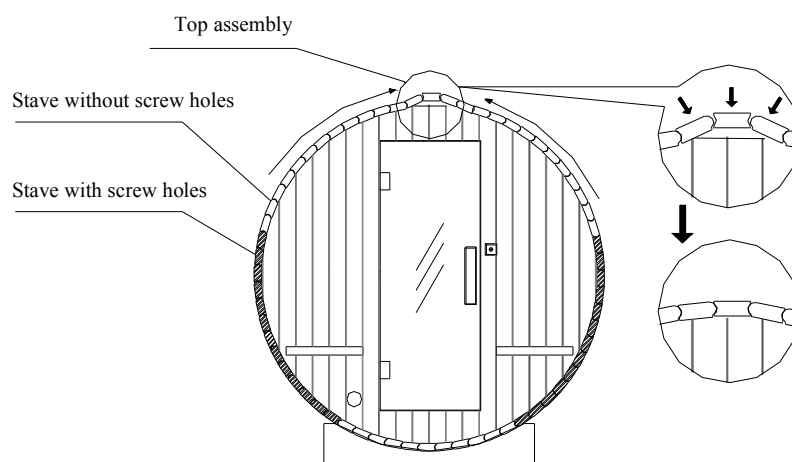

Figure7
- (1) Go on assembling staves without screw holes up to the top of sauna. To assemble the final stave on the top, please see (show in Figure 7)